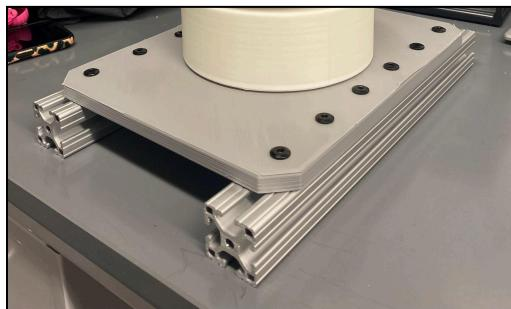

Figure 3: Final Base Assembly
8. **Verification:** Visually inspect all fasteners to ensure they are fully engaged and tightened. Gently shake the assembled base to confirm stability. If any movement is detected, re-tighten the appropriate bolts. See Figure 3 for the assembled Base.